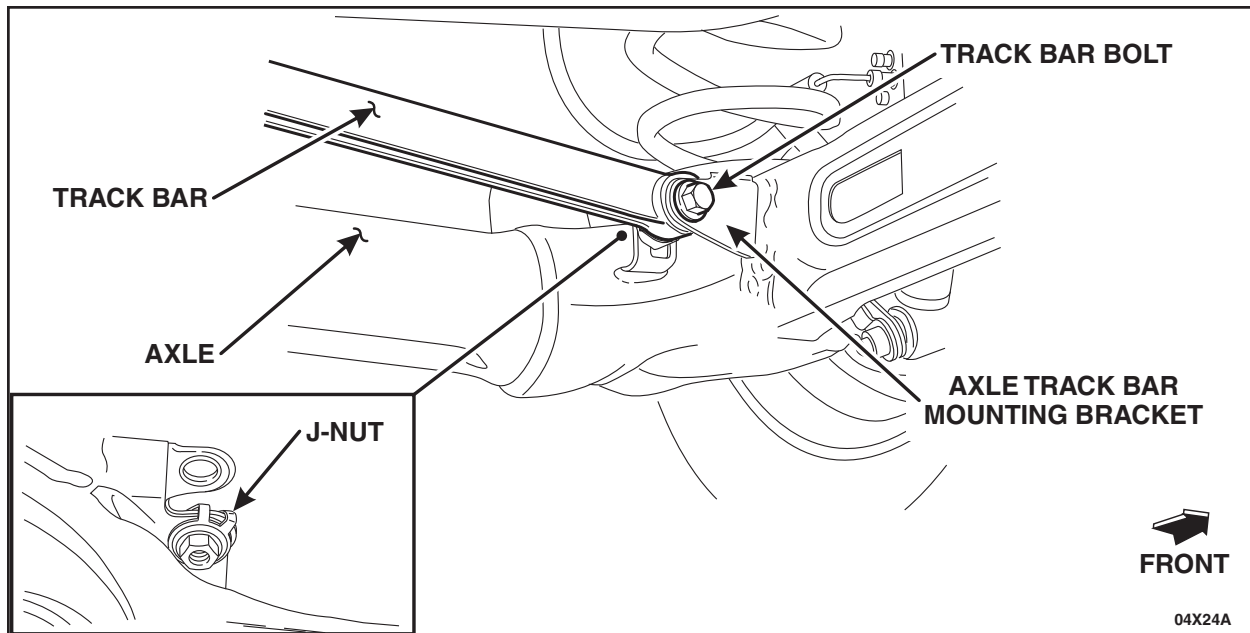

FIGURE 9
4. Disconnect the track bar from the rear axle. See Figure 9.
18. Install the J-nut on the rear axle track bar mounting bracket. Position the track bar on the rear axle track bar mounting bracket and install the track bar bolt. See Figure 9.